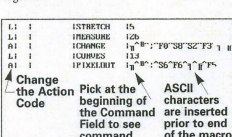

Figure 5
2. Position the cursor at the front of the PIXELOUT line and change the L Action Code (the first column) to an A to activate a macro, as shown in Figure 5.
3. Move the cursor to the Command field, and pick at the beginning of this field, also shown in Figure 5.
8. Finish the line with the rest of the macro: ^F5. The entire command line should look like Figure 5.